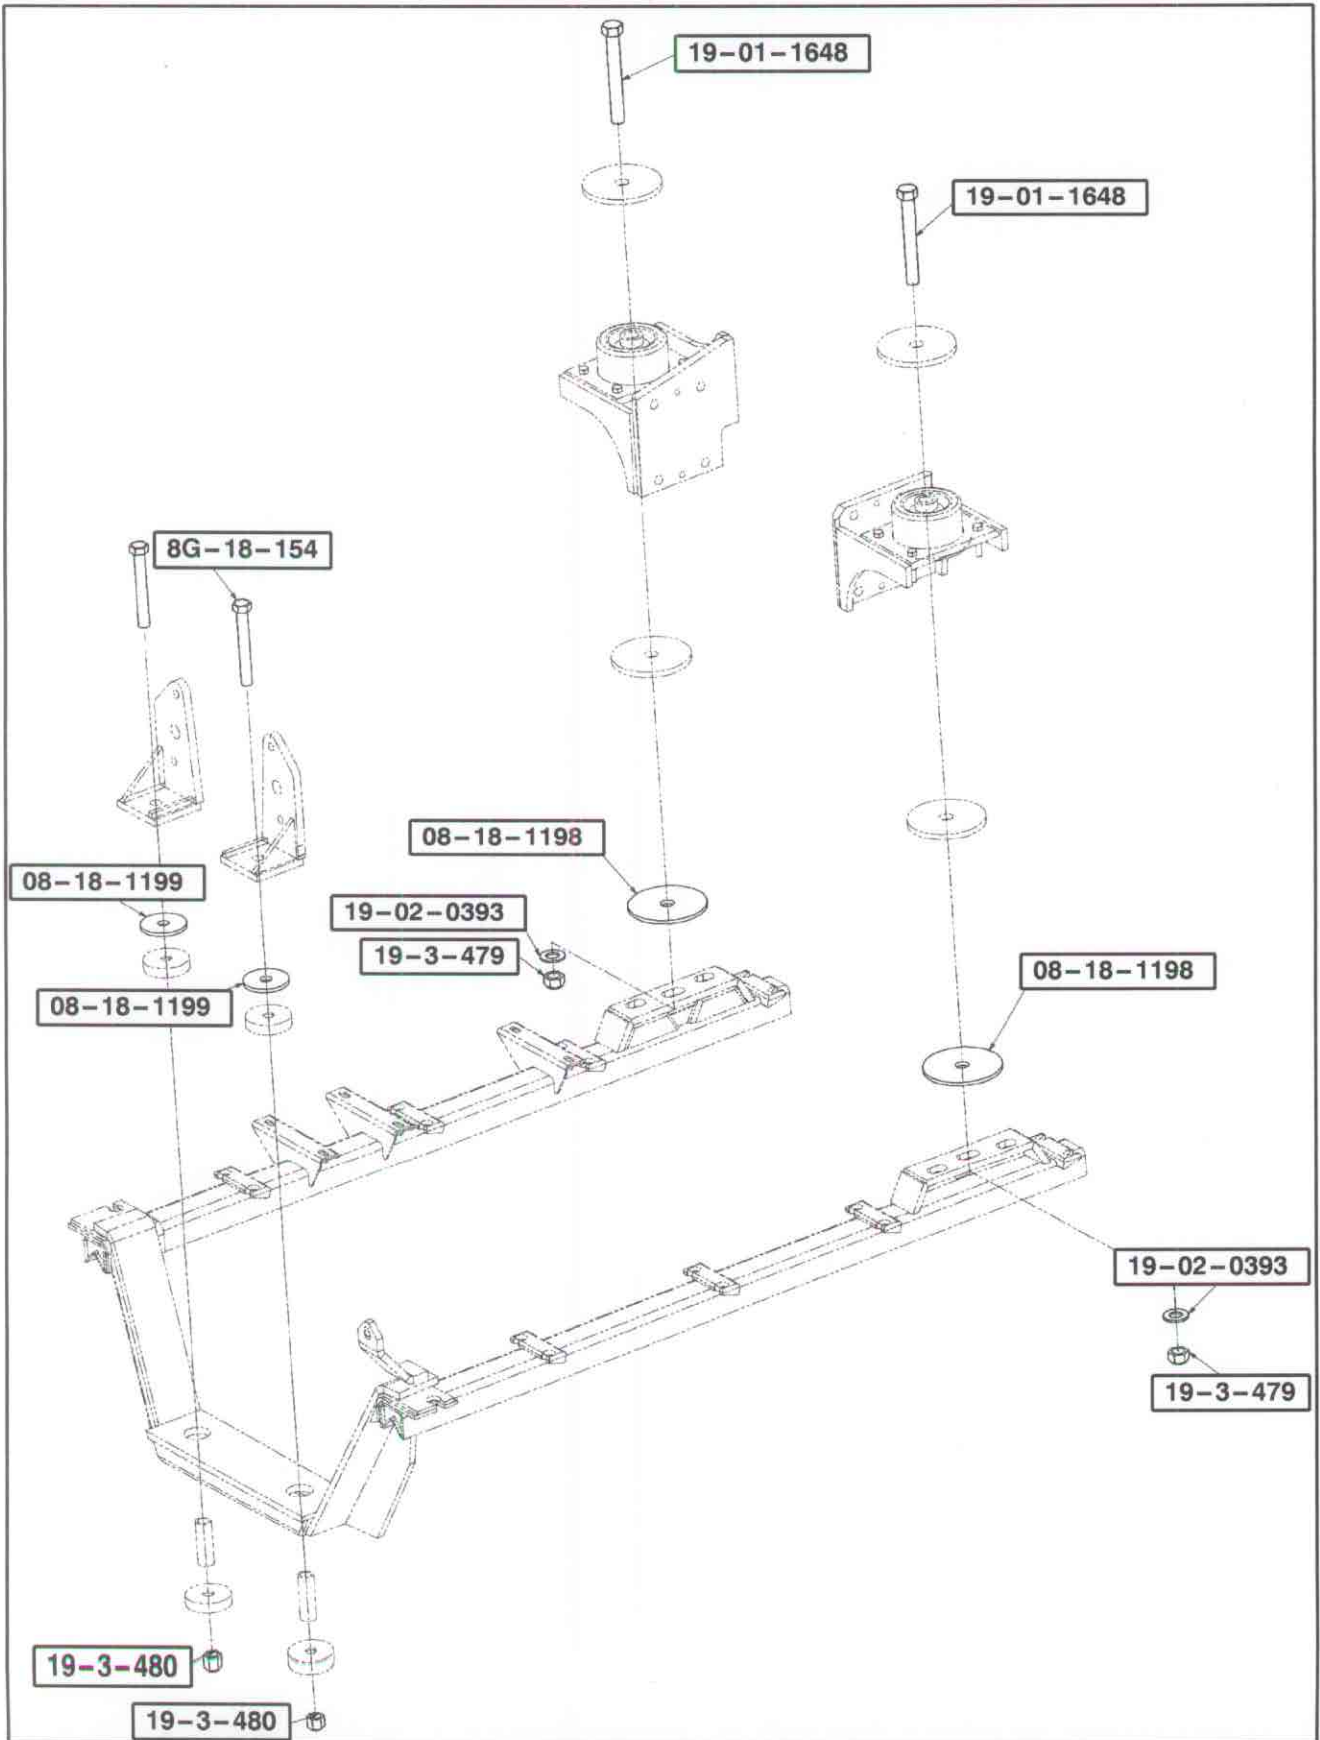

Figure 1.
3. Locate the engine cradle mounting hardware shown in Figure 1 (four locations).
4. Remove and discard the existing locknuts only from the four locations shown in Figure 1.
Procedure Steps 11. to 17. are performed with the coach on a lift. Position jackstands at the front and rear frame support points, according to Figure 1, to ensure that the coach is securely supported before attempting work underneath the coach. Support the tag axle.